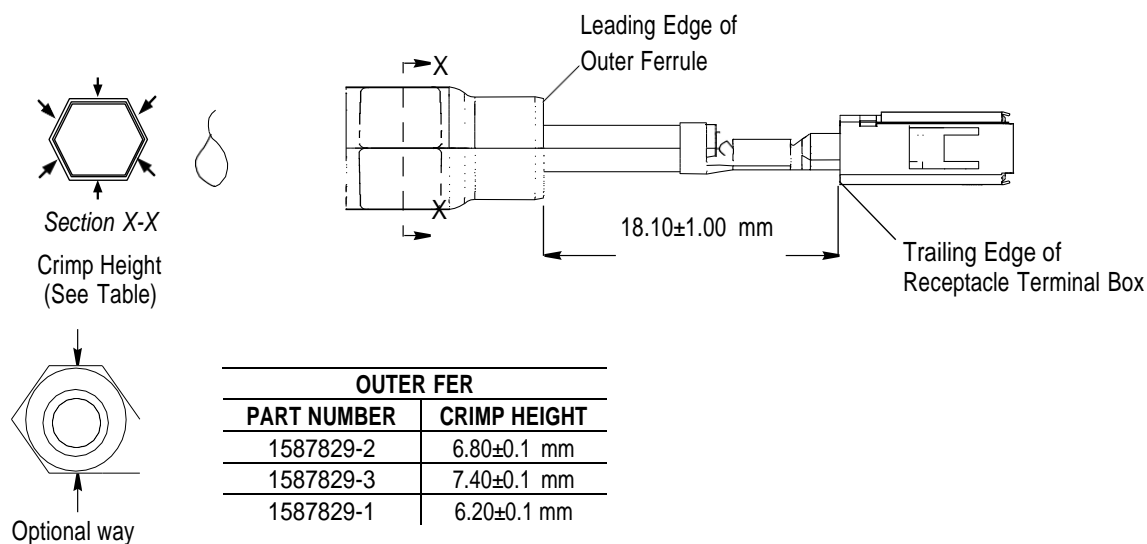

Figure 11
While these steps provide a logical procedural flow to complete this assembly, the order of operations maybe changed as needed as long as the dimensional specification between the terminal and the ferrule shown in Figure 11 (18.10 ± 1 mm) is not violated and ferrule retention meets all the USCAR 37 acceptance criteria.
9. Crimp each outer ferrule using the tooling specified in Section 5. Using a blade micrometer, measure each outer ferrule crimp at 3 places: one on top and one on each opposing side. The crimp height must meet the dimension given. Use the lowest measurement as the passing criteria. The crimp height is shown in Figure 11. An optional way is to do one measurement in vertical or operating direction of the crimp tool as the other representation of Figure 11.
The distance between the leading edge of the outer ferrule and trailing edge of the receptacle terminal box must be maintained at the dimension given in Figure 11.